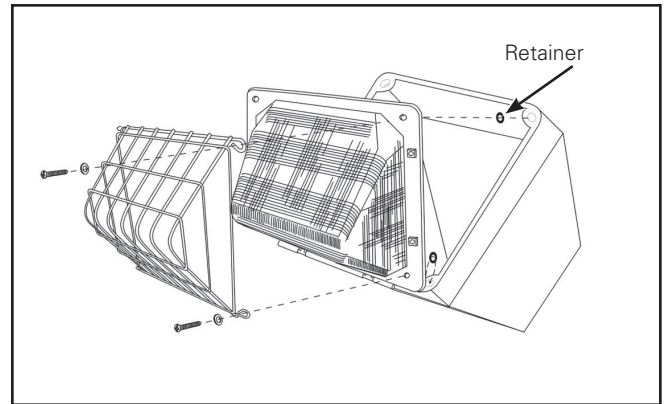

Figure 3.
2. Install the wire guard, use enclosed 4 new "longer" screws (replace the original 4 screws) and twist the retainer back, according to (Figure 3.)